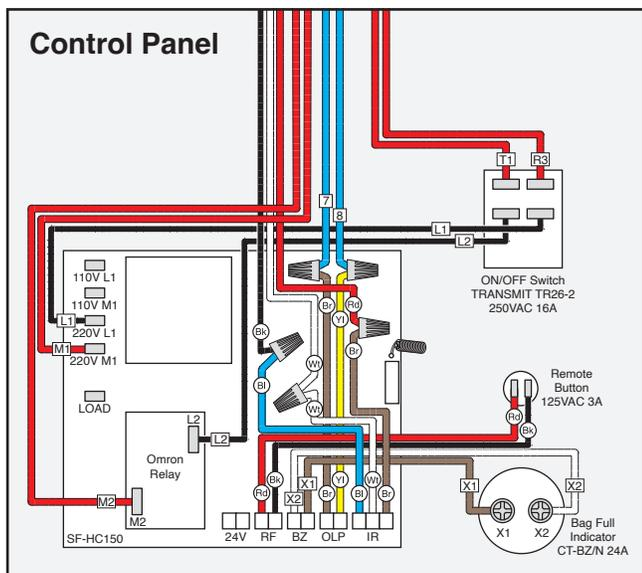

Figure 17. Wiring connections on control panel for 440V operation.
- Connect T1 and R3 wires to upper ON/OFF switch terminals on control panel, M1 wire to 220V M1 terminal, M2 wire to M2 relay terminal, and brown/yellow wires to OLP terminal (see **Figure 17**).